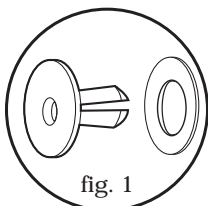

fig. 1
1. First put the roof plug washer on the roof plug. See (fig.1) Place facia panel (FPLC) to front roof structure. Locate the holes in the facia panel through roof structure and fix with roof plugs w/washers. See Step 1.